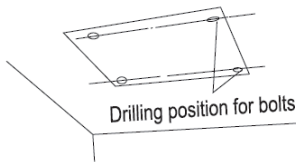

Fig.6
- (1). Using the installation template, drill holes for bolts (four holes). (Fig. 6)